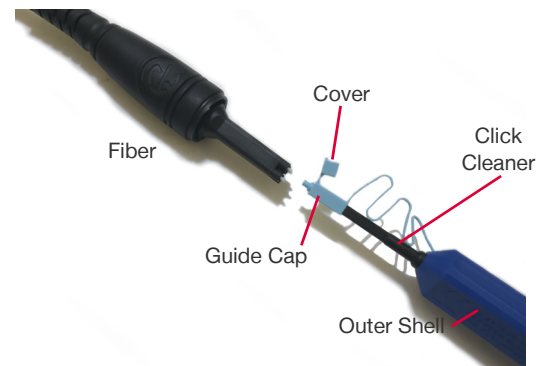

Figure 2-7: opticalCON QUAD Click Cleaner
- Step 5. Insert guide cap onto fiber end (ferrule) while observing cautions as shown in **Figure 2-7**.